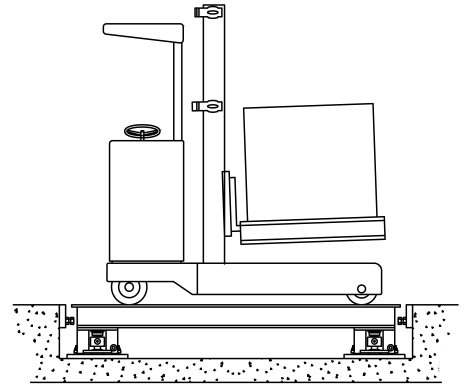

Figure 6-13: Platform Scale, Drive-On
- **Platform Scale, Drive-On:** If a platform scale is used to weigh motorized vehicles such as forklifts, large horizontal forces can result when the vehicle stops. Typically, settling time is not critical in these applications. The normal configuration is to allow the scale to float freely (no stabilizers) but with external bumper bolts to restrict horizontal movement. The bumper gaps should be small enough so that the platform bumps against the external bumpers before contacting the weigh module's bumpers (see Figure 6-13). **Note:** Although stabilizers are not required for this type of dynamic scale, we recommend using external stops or checking.